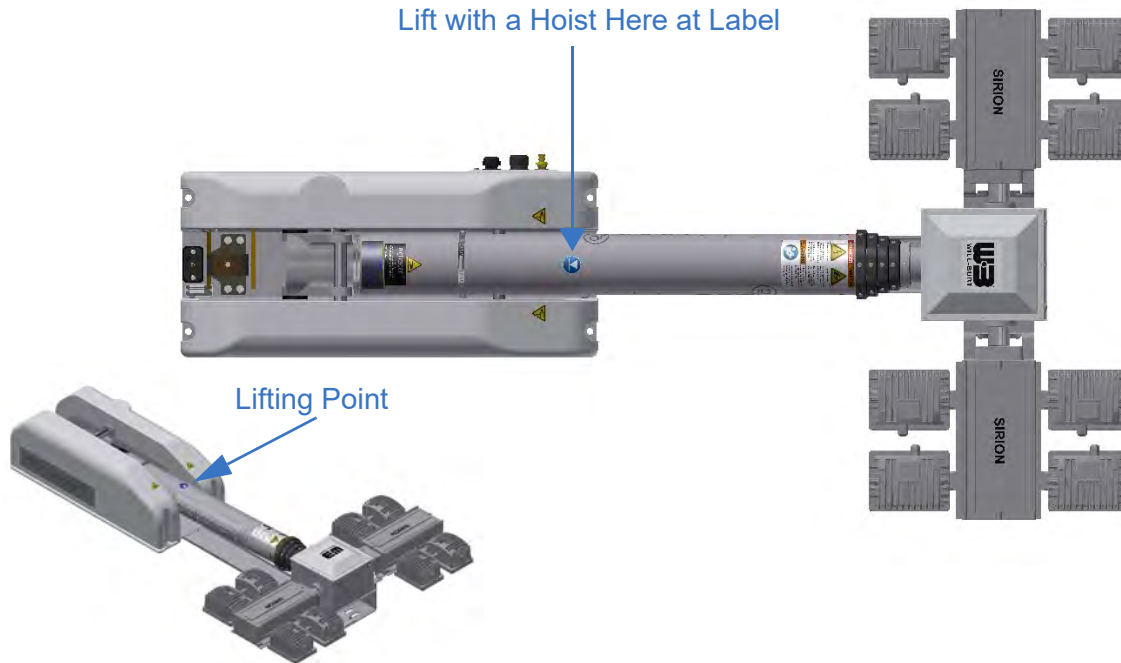

Figure 5-2 Center of Gravity Hoisting Position
6. Using a hoist, lift the unit from the shipping container by the mast tube at the labeled center of gravity symbol (Figure 5-2) position. Do not lift using the RCP or lights/camera. Lifting from locations other than those indicated could result in equipment damage. Use two point contact for slings to keep the load stable while moving.